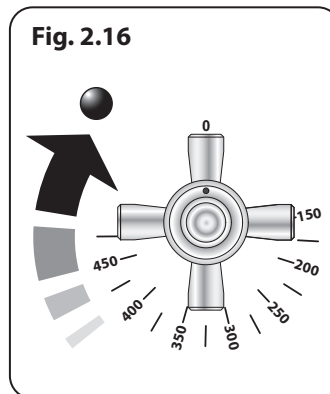

Fig. 2.16
1. Turn the oven knob to the desired temperature (**Fig. 2.16**).